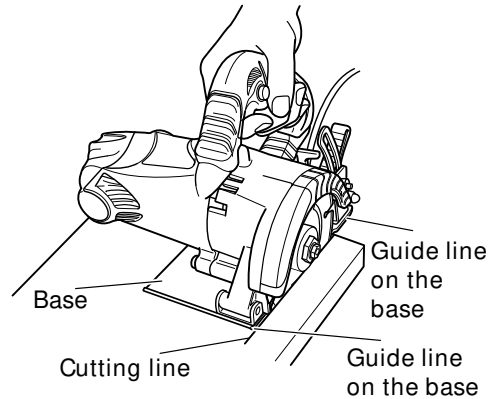

Fig. 5
1. Set the machine body (base) on the material to be cut; use the side on the base to align the diamond wheel with the cutting line. (Fig. 5)